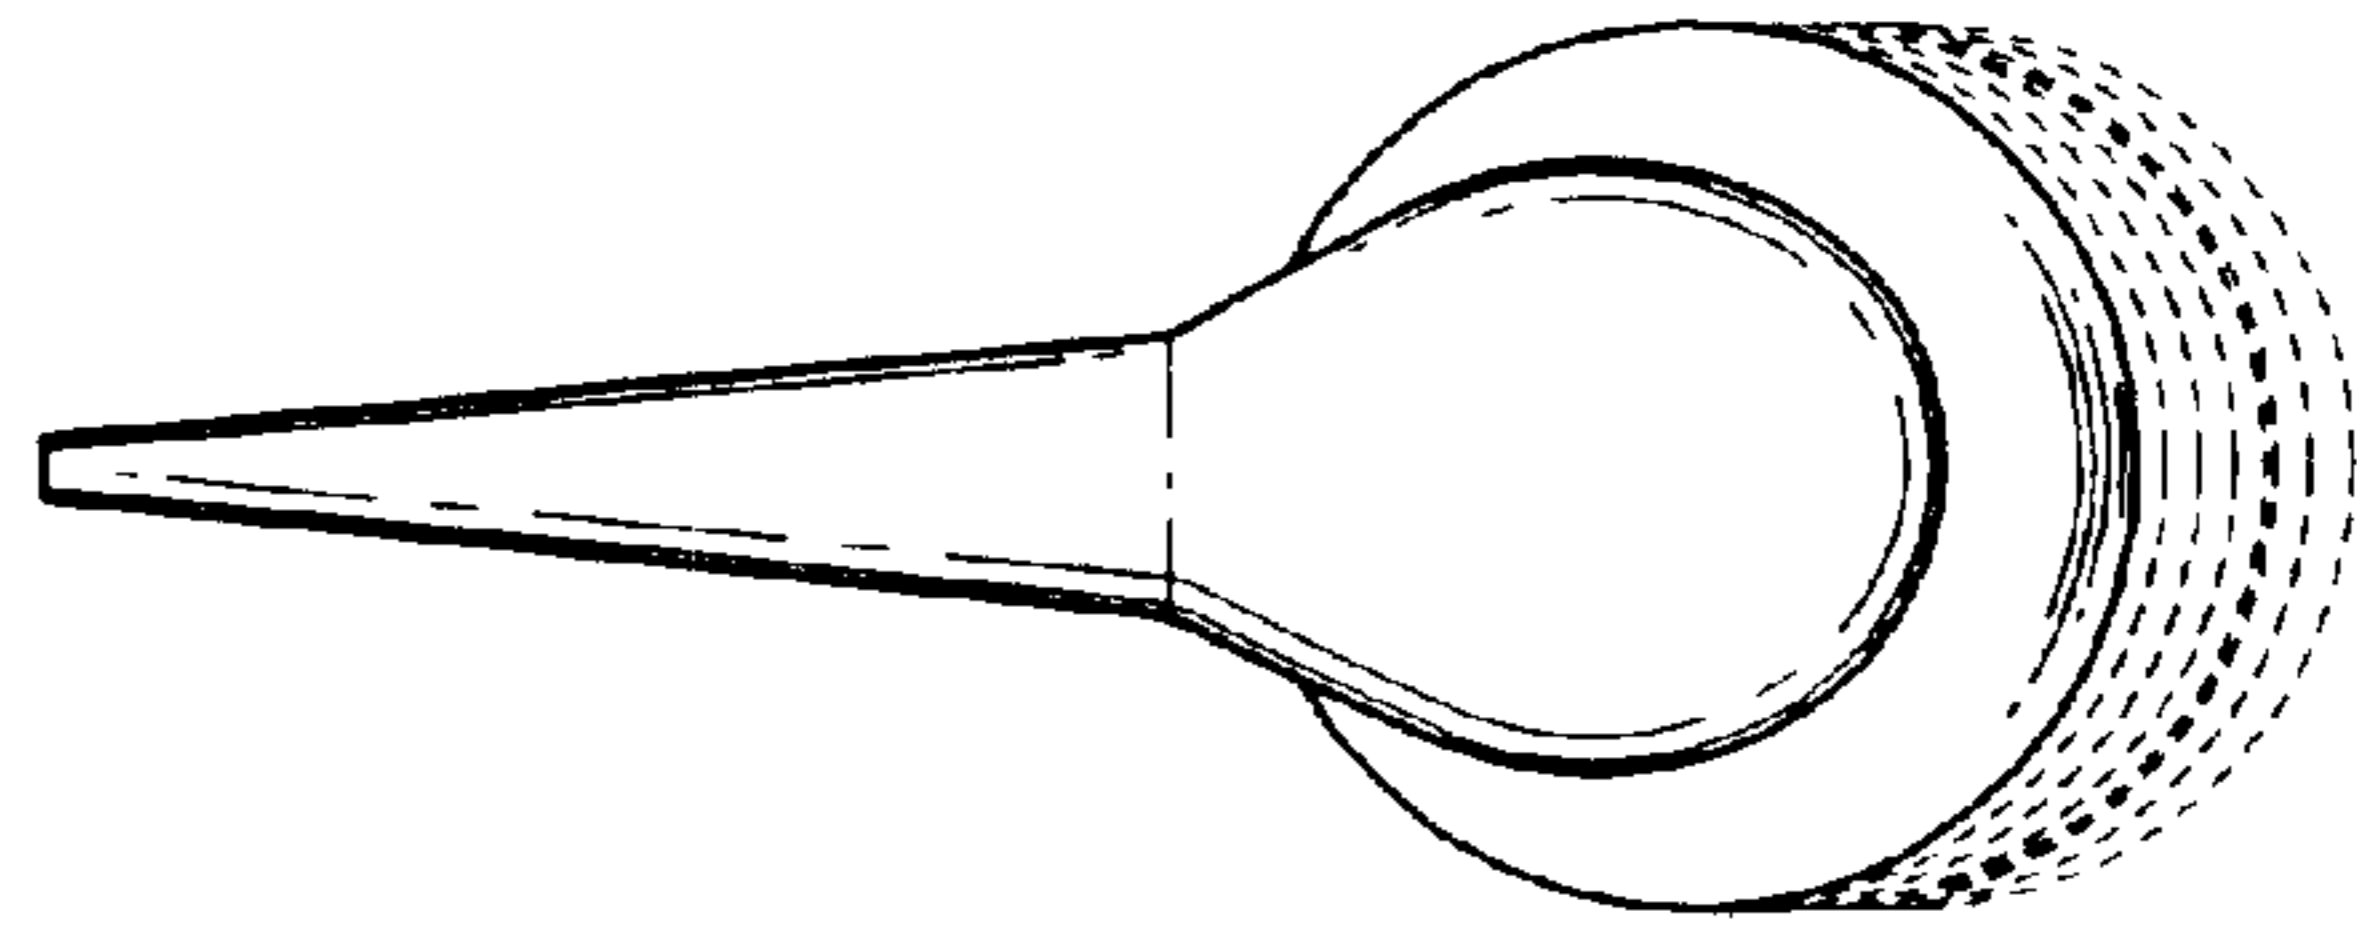

FIG. 5
- FIG. 5 is a top plan view thereof;